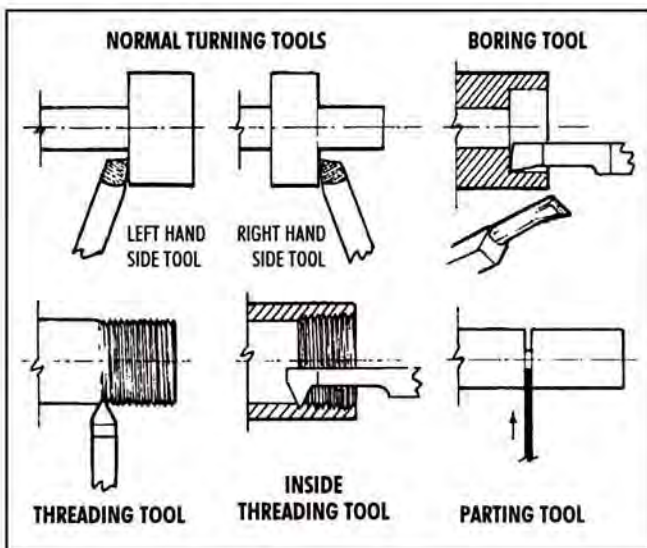

FIGURE 12—Tool shapes
**SIDE TOOLS**—While these may be, and often are, used as general purpose turning tools, their specific use is for facing the sides of collars and shoulders; that is, finishing these to correct dimension and with a smooth, flat surface. They are also for facing work held on a faceplate or in a chuck. The facing of work in this manner is very useful for the production of truly flat surfaces and for producing articles to an exact thickness. The two uses of the side tools are illustrated in Figures 12 and 13. The sharp corner at the cutting point should not be slightly rounded, as may be done with the normal turning tool, as knife tools may be required to produce sharp corners.